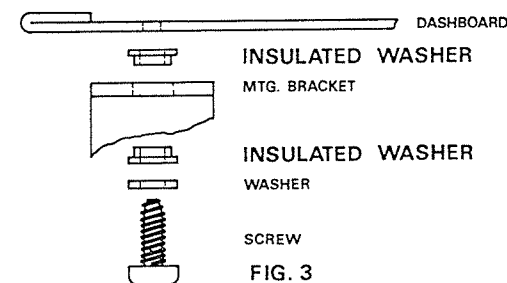

FIG. 3
- c) The mounting bracket must be isolated from the chassis of the vehicle in such a manner as shown in Fig. 3.